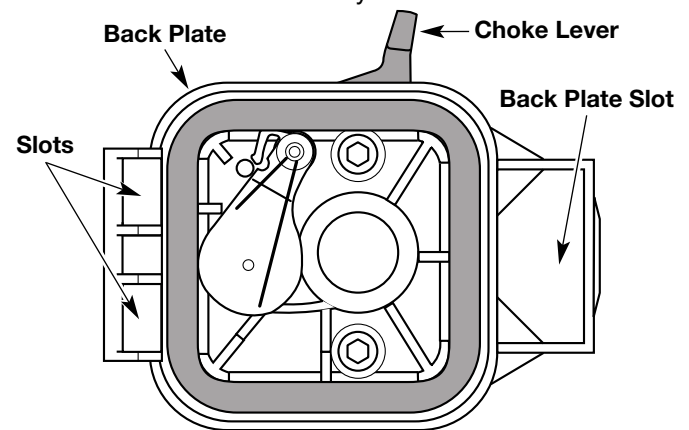

Fig. 36
6. Replace the filter (Fig. 36).
7. Reinstall the air filter cover. Position the hooks on the left side of the air filter cover into the slots at the left side of the back plate (Fig. 36).
8. Swing the cover to the right until the tab on the air filter cover snaps into place in the slot on the back plate (Fig. 36).